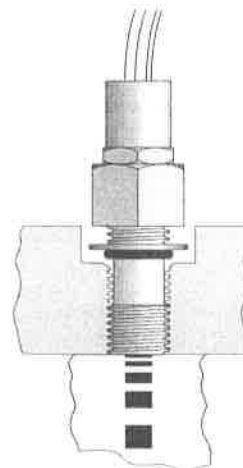

Figure 20
4. By hand, lightly thread the speed sensor body into the housing until the sensor touches against the motor (gear/target) tooth. Do not force the sensor against the (gear/ target) tooth, damage may occur. Make sure the o-ring or the washer do not touch the housing — see Figure 20.